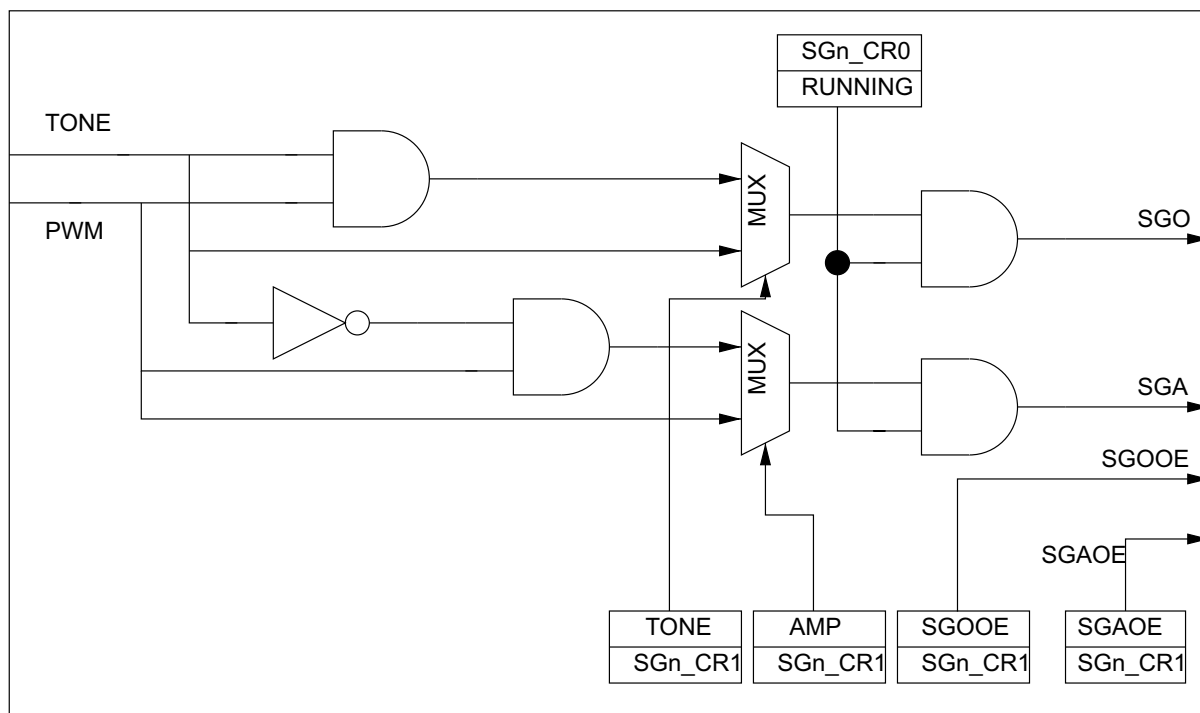

Figure 6-26: Output generation logic
- The Sound Generator output signals are multiplexed through the SGO and SGA outputs with SGn_CR1:TONE and AMP bits as shown in Figure 6-26